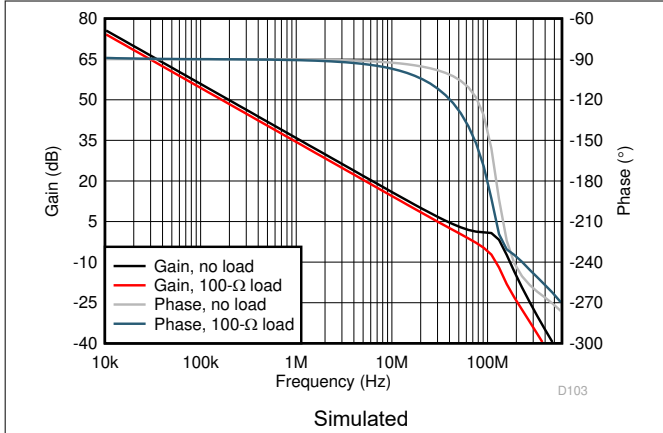

Figure 7-41. Main Amplifier Differential Open-Loop Gain and Phase vs Frequency
- A_{OL} gain and phase; see Figure 7-41.